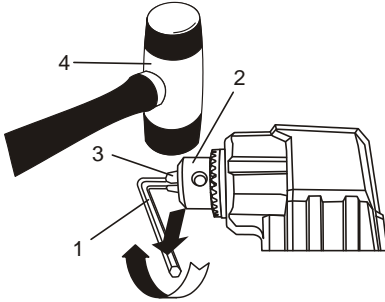

Fig. 7
2. Insert a 5/16" or larger hex key (1) into the chuck (2) and tighten the chuck jaws securely. Make sure each of the three chuck jaws (3) is seated on the flat surfaces of the hex key (Fig. 7).